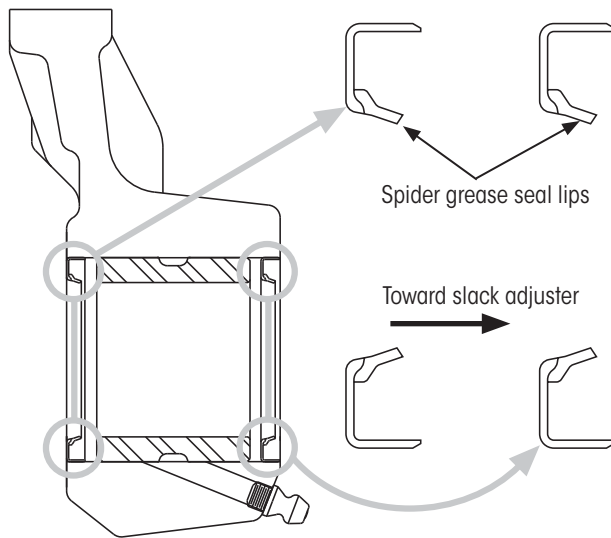

Figure 13: Spider grease seal orientation
NOTICE: The lips of both seals must face inward toward the brake chamber (Figure 13). This seal orientation directs any excess grease away from the brake shoes.
- B. **Apply grease** to the spider S-cam bushing and the S-cam support bushing assembly until new grease purges from the inboard seals. When the seals are correctly installed, grease will purge from the inboard side of the bushing, away from the brakes and toward the slack adjuster (Figure 13).